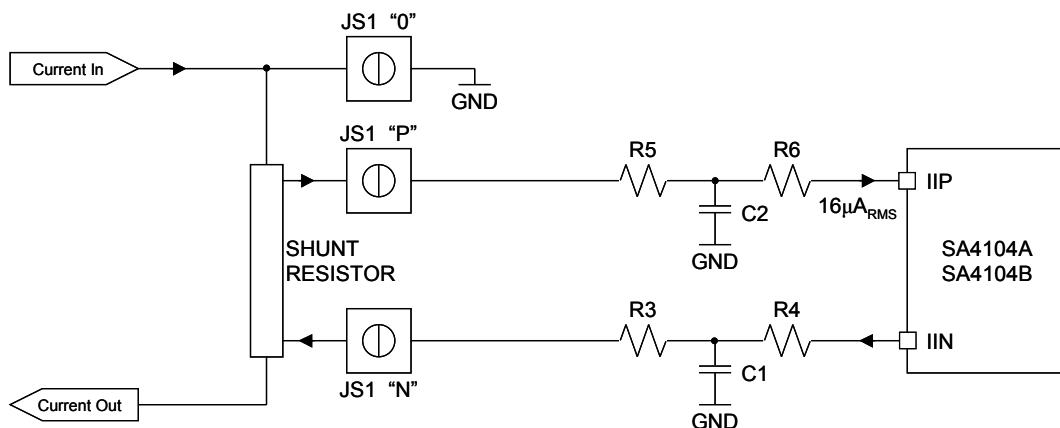
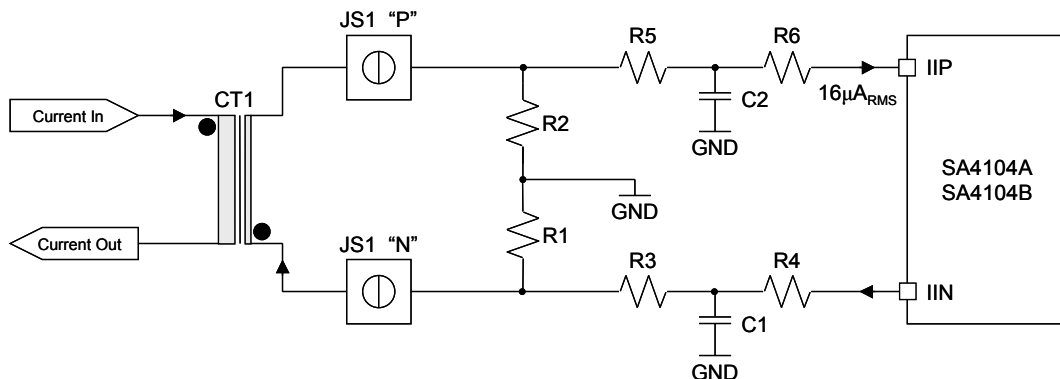

Figure 2: Current input network on the PM4104APDA when using a shunt resistor as current sensing element
Figure 3: Current input network on the PM4104APDA when using a current transformer as current sensing element
Figure 2 shows the circuit diagram of the current sense input network when using a shunt resistor to sense the line current as it is implemented on the PM4104APDA. The shunt is connected externally.
The shunt resistor should be selected so that the voltage drop generated at maximum rated mains current (IMAX) is larger than 10mVRMS and smaller than 100mVRMS. At maximum rated mains current the current input network should be designed to supply an input current of 16μARMS to the current sense inputs (IIP and IIN) of the SA4104A/B. The current sense inputs saturate at an input current of ±17.6μARMS (±25μAPEAK), so this allows about 10% headroom until saturation occurs. Referring to Figure 2, the resistors R3 to R6 define the current flowing into the energy metering device. The optimum input network is achieved by setting the input resistors equal, i.e. setting R3 = R4 = R5 = R6. Noting that the energy metering device creates a virtual short circuit between the differential current sense inputs (IIP and IIN) the value for the current input resistors can be calculated as follows:
Figure 3 shows the circuit diagram of the current sense input network when using a current transformer (CT) to sense the line current as it is implemented on the PM4104APDA. The CT is connected externally.
At maximum rated mains current ( $I_{MAX}$ ) the current input network should be designed to supply an input current of  $16\mu A_{RMS}$  to the current sense inputs (IIP and IIN) of the SA4104A/B. The current sense inputs saturate at an input current of  $\pm 17.6\mu A_{RMS}$  ( $\pm 25\mu A_{PEAK}$ ), so this allows about 10% headroom until saturation occurs. Referring to Figure 3, the resistors R1 and R2 form the current transformers termination resistor. The reference level is connected in the centre of the termination resistor to achieve purely differential input currents. The voltage drop across the current transformer termination resistors at maximum rated mains current should be in the order of  $100mV_{RMS}$ . The value of the termination resistors R1 and R2 is therefore
For best immunity to electromagnetic disturbances the SA4104A/B requires low-pass filters on the current sense inputs. Referring to Figure 2 and Figure 3, these filters are realized by means of the capacitors C1 and C2. The typical cut-off frequency of these filters should be between 10kHz and 20kHz. The equivalent resistance associated with each capacitor is  $R_C/2$  so the capacitor value should be in the order of